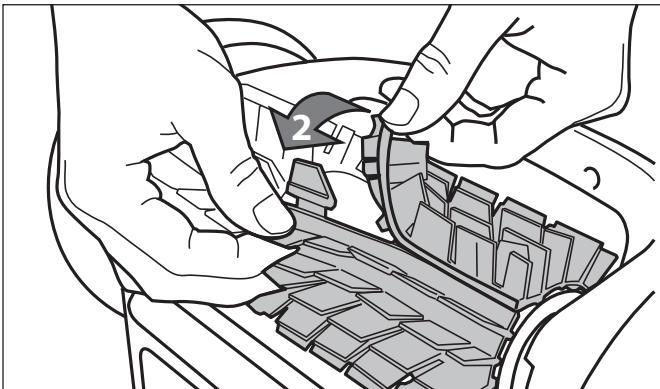

Figure 29. Undo the Tabs of the Brush
2. Separate the edges of the brush and undo the tabs as shown in Figure 29. Remove the worn brushes.